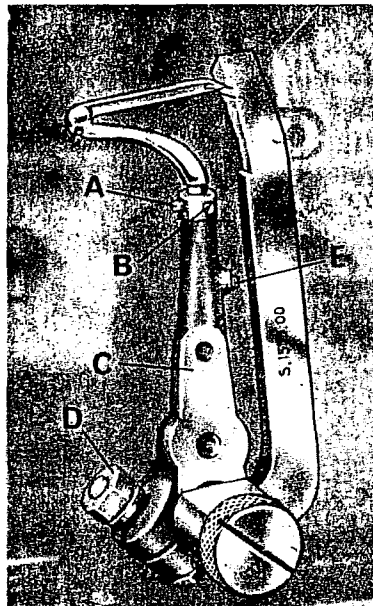
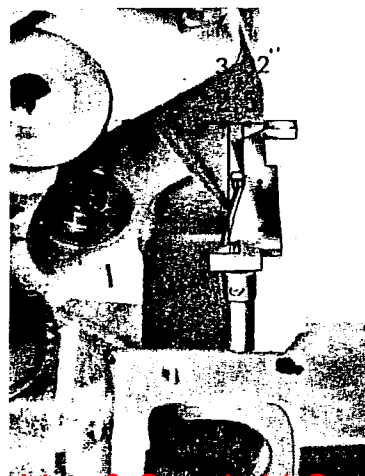
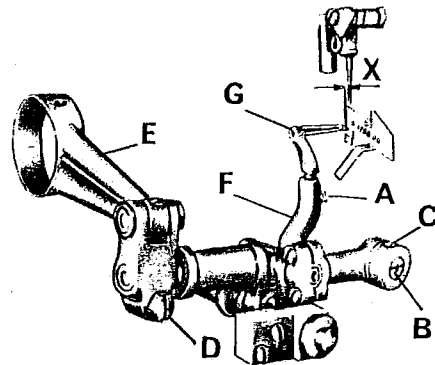

fig. 4
fig. 5
fig. 11
- S 1665.00 for all operations of overedging except No. 4 (fig. 4) and chainstitch operation (fig. 11 & 12).
- S 1555.00 for operation No. 4 (fig. 4).
- S 1708.00 for chainstitch (fig. 11 & 12)
4. Setting primary looper (fig. 4)
- Mount looper height gauge No. S 1555.00 on the primary looper shaft with special screw supplied with gauge as shown in (fig. 4).
- Slightly tighten screw 'E' (fig. 4).
- Rest timing gauge No. S 1665.00 (fig. 5) on the milled surface of the base and adjust looper lever 'C' (fig. 4) forward or backward on primary looper lever 'C' until the correct angle of the looper is obtained on timing gauge S 1665.00 (fig. 5).
7 - Setting the chain stitch looper (fig. 11)